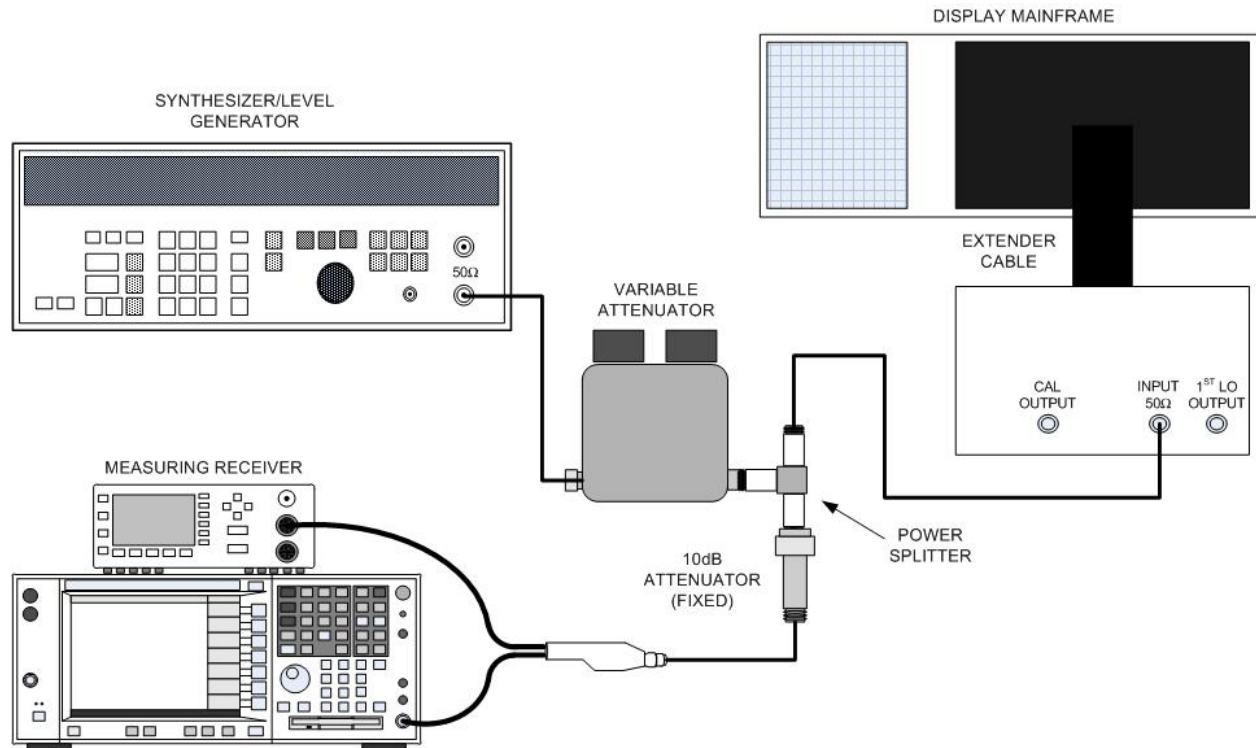

Figure 11. Reference level - equipment setup.
- (1) Connect power sensor to power reference output. Perform sensor zero and calibration.
- (2) Connect equipment as shown in figure 11.